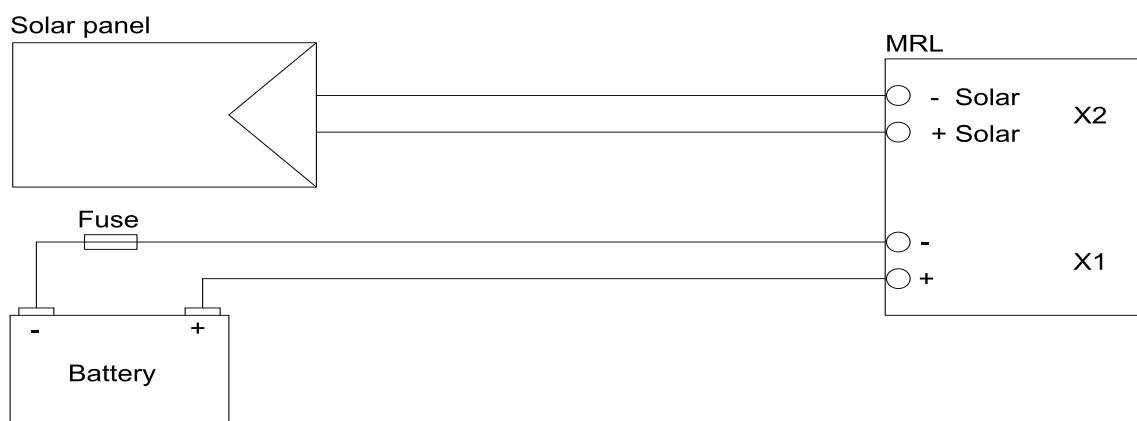

Figure 5 Wiring of a solar panel
2. Connect a 12 V lead-acid battery with the correct polarity to the X1 terminal of the data logger. Connect a 20 A fuse to the connecting wire as shown in Figure 5.